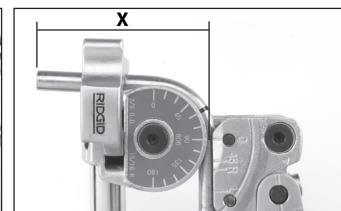

Figure 7 – After
- With the mark on the tube appropriately aligned, move the Carriage so that the "0" Line aligns with the 90 degree line on the Form. (See Figures 7 and 9 – After).